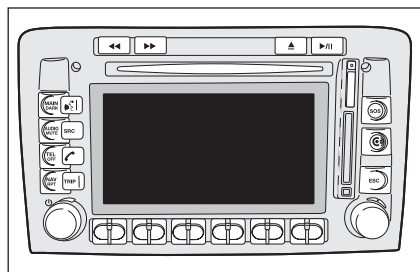

fig. 4
- ☐ with Connect Nav+ **fig. 4**.